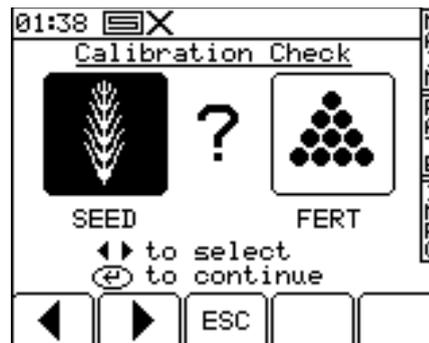

Figure 16. Dual product/Single metering
- 2a. If the instrument is configured for dual products, first select the product you want to calibrate (Fig.16).
NOTE: If a priming switch is employed for calibration the calibration routine will commence from Fig. 16.
If the instrument is configured for dual products, first select the product you want to calibrate (Fig.16).
If configured for dual metering units, likewise, first select the left or right unit (Fig.16)